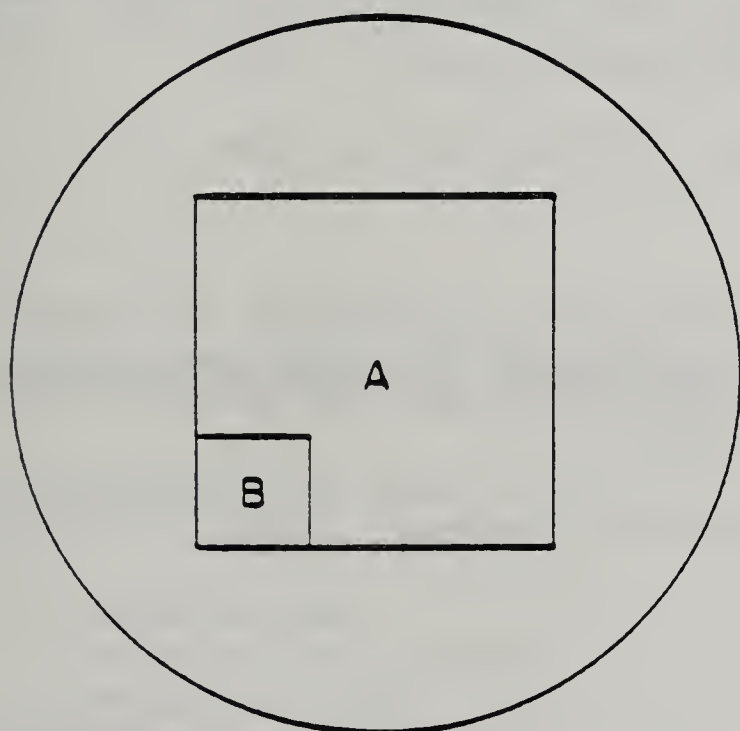

FIG. 115. Miller disc.
10. There are several methods of counting reticulocytes once the smears have been made: (1) One procedure utilizes the Miller disc that is placed inside the microscope eyepiece. This disc consists of two squares as shown
in Figure 115. The area of the smaller square (B) is a tenth that of square A. Therefore, if there are 40 red cells in square A, there should be four red cells present in square B. When employing this method to count reticulocytes, the red cells in square B are counted in successive fields on the slide, until a total of 500 red cells have been counted. At the same time, the reticulocytes in square A are enumerated. At the completion of the count, theoretically, the reticulocytes contained in 5000 red cells have been counted. The number of reticulocytes obtained in this way is divided by 50, in order to obtain the percent reticulocytes present in the blood. The count is also performed in duplicate, using a second smear, and the results averaged to obtain the test value. This method is somewhat time-consuming. (2) Place a small "window" in the eyepiece of the microscope. This makes the field smaller and the counting of cells easier. (Cut out a round piece of paper the same diameter as the eyepiece and cut a square hole in the center. Unscrew the top lens of the eyepiece, insert the paper, and replace the top lens.) (3) For reticulocyte counts less than 10%, count at least 100 reticulocytes (except in extremely low counts where this would not be practical). Instead of counting the number of red cells in every field, count the red cells in every 8 to 10 fields and also keep track of the number of fields examined. Calculate the reticulocyte count as follows: